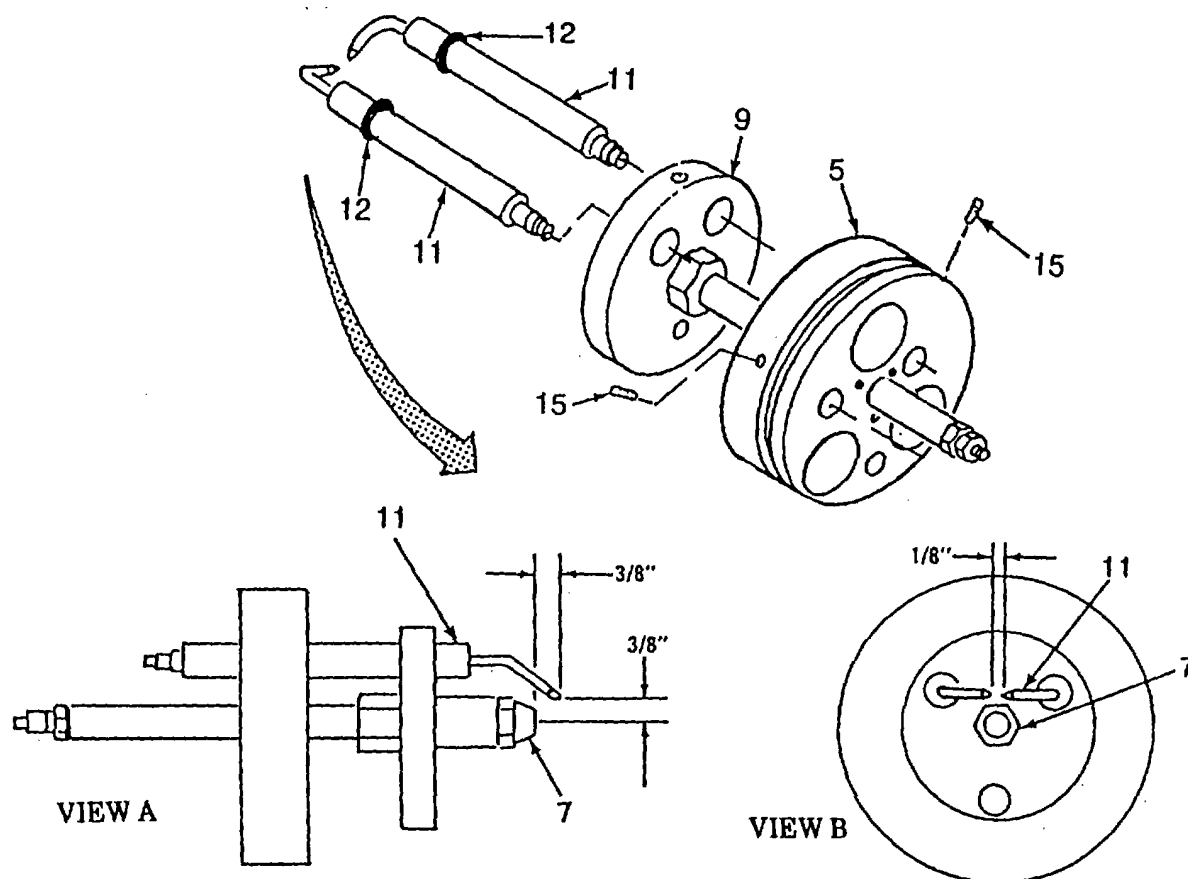

Figure 5-9. Burner Assembly (Sheet 4 of 5)
c. Assembly - continued (Refer to Figure 5-9)
(19) Install tube (16) into block assembly (5).
(20) Install preformed packing (17) (Item 30, App H) on block assembly (5).
(21) Install fire ring (18) into flange assembly (19) and install screw (20).
(22) Install block (5) flush with flange assembly (19) aligning the tube (16) with the notch in fire ring (18) and install three setscrews (21).